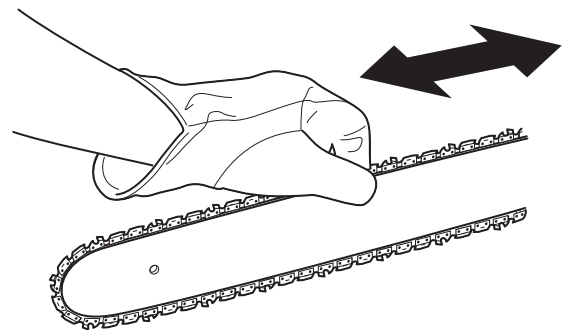

Fig. 34
3. Hold the guide bar tip up and move the saw chain back and forth along the guide bar (Fig. 34). Make sure the saw chain moves freely and is in proper mesh with the sprocket. If the saw chain does not move easily, slowly turn the chain-tensioning screw counterclockwise to loosen the saw chain.